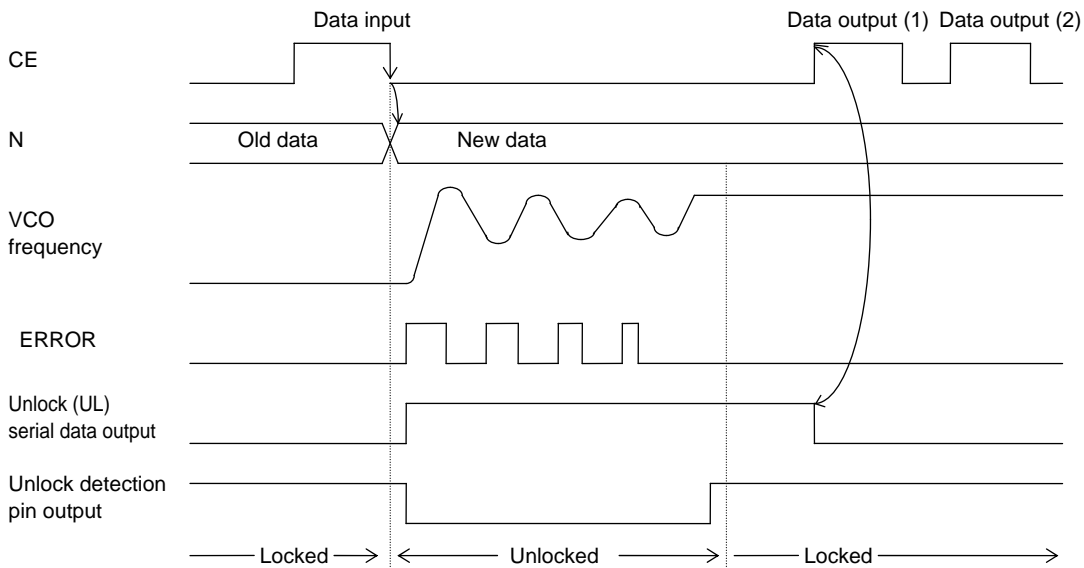

Figure 3
In the LC72131K/KMA, once an unlocked state occurs, the unlocked state serial data (UL) will not be reset until a data input (or output) operation is performed. At the data output (1) point in Figure 3, although the VCO frequency has stabilized (locked), since no data output has been performed since the divisor N was changed the unlocked state data remains in the unlocked state. As a result, even though the frequency has stabilized (locked), the system remains (from the standpoint of the data) in the unlocked state.